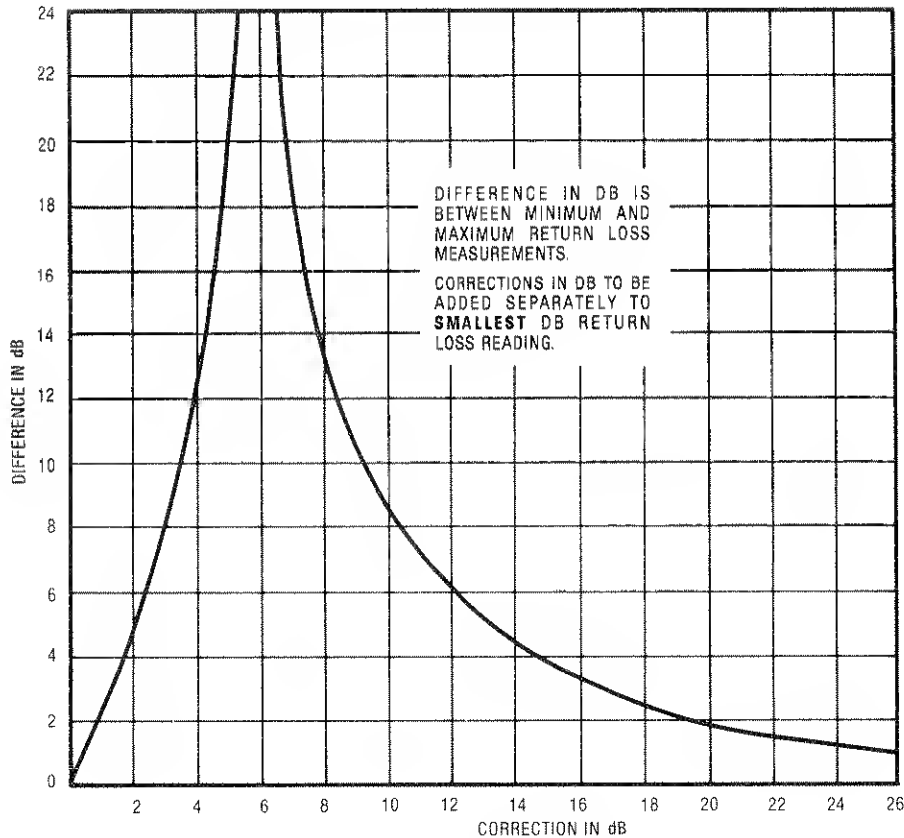

Figure 4-3. Signal Separation Chart
11. For each frequency, the maximum and minimum measured return loss values correspond to the directivity signal and the sliding load signal adding and subtracting. You can separate these two signals with the Signal Separation Chart, Figure 4-3. Calculate the **difference** in dB between the maximum and minimum measured return loss for each frequency and locate this value on the vertical axis of Figure 4-3. Draw a horizontal line across the chart from the point just located and note the two places where it intersects the curves. The intersections are the two correction values in dB. Add each of them to the **minimum** measured return loss. The resulting two corrected values are the directivity signal and the sliding load reflected signal.